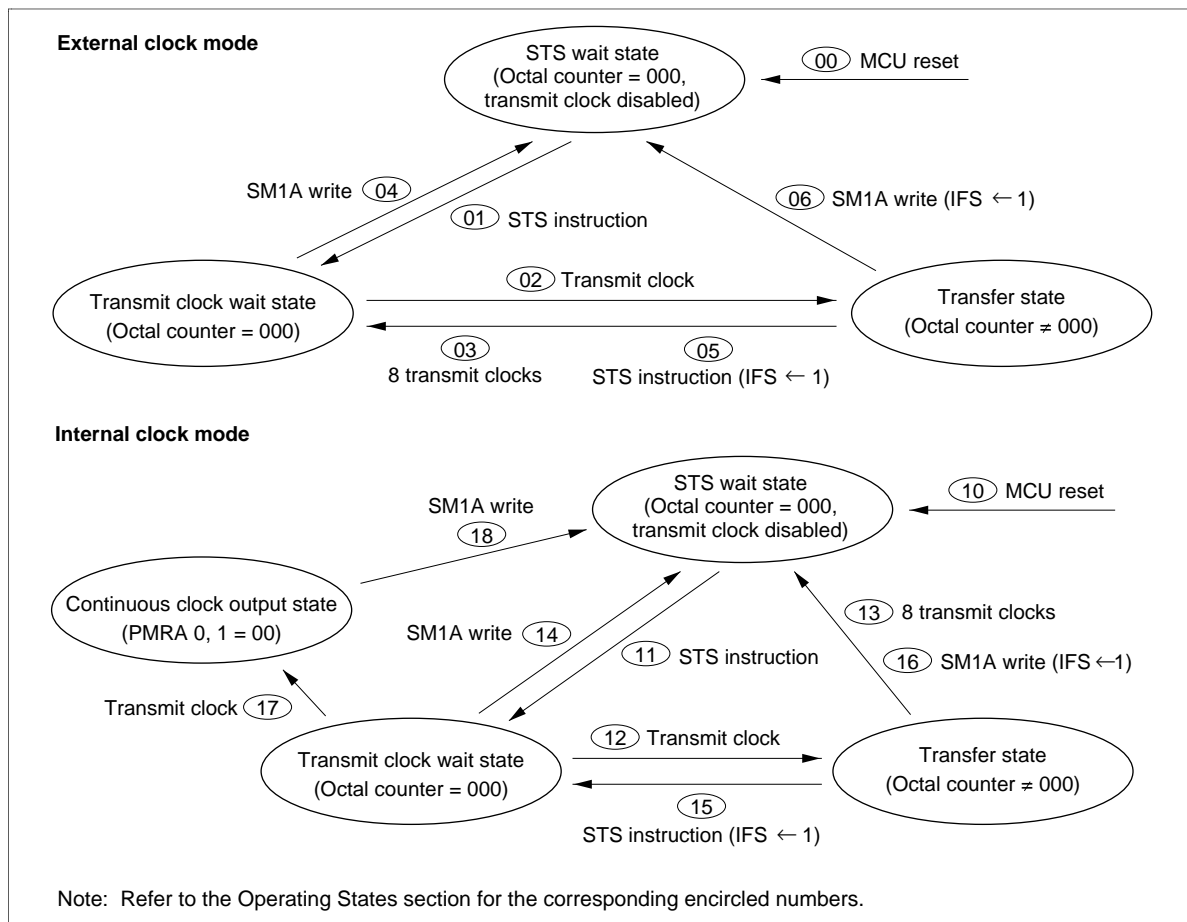

Figure 67 Serial Interface State Transitions
Operating States: The serial interface has the following operating states; transitions between them are shown in figure 67.
- **STS wait state:** The serial interface enters STS wait state by MCU reset (00, 10 in figure 67). In STS wait state, serial interface 1 is initialized and the transmit clock is ignored. If the STS instruction is then executed (01, 11), serial interface 1 enters transmit clock wait state.